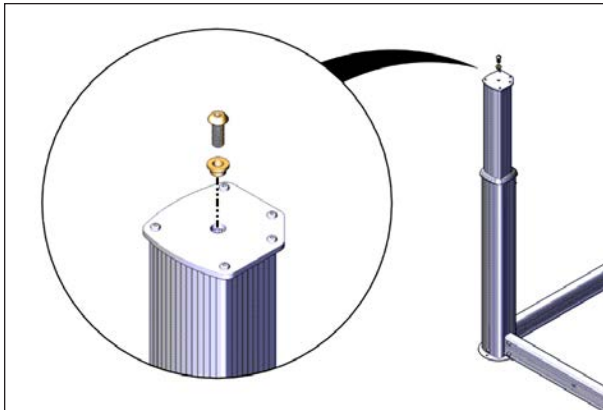

FIGURE 46: FASTEN THE SLEEVE TO THE JACK
23. Install the previously removed 3/8" x 1" Allen screw on the jacks with a 7/32" (5.5 mm) socket. The narrow part of the bushing must be facing downwards, see Figure 46.